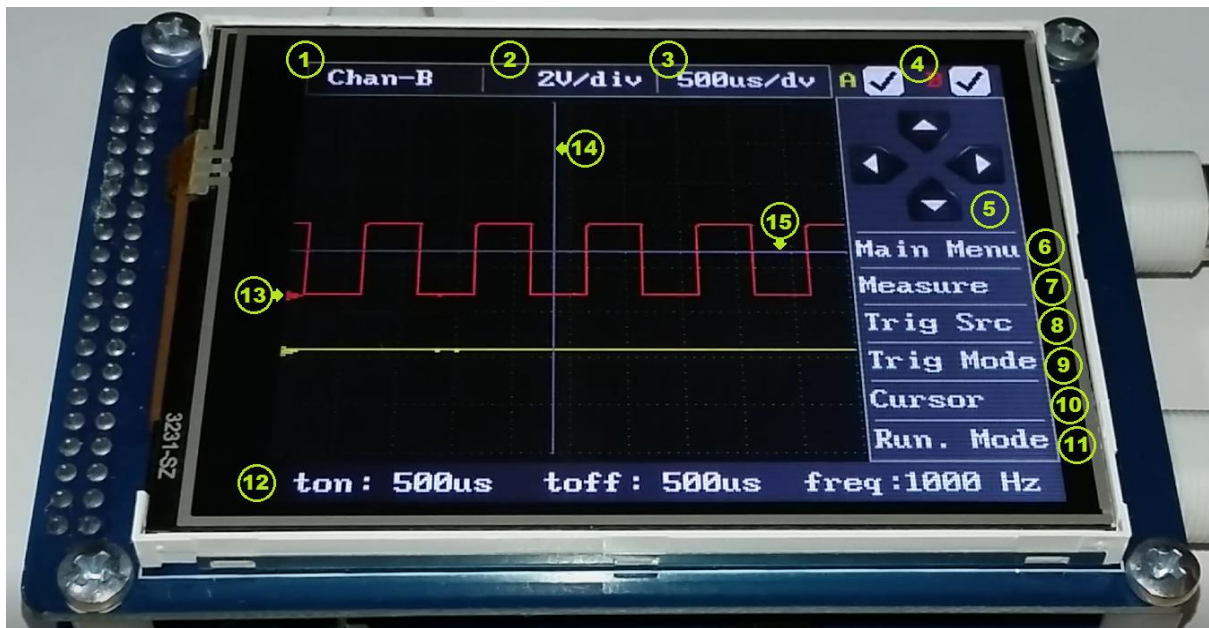

Figure 3. Oscilloscope mode display description
To keep the observed signal stable on the display, the trigger source must be selected for that channel. Otherwise, it will be difficult to observe because the signal will be very moving on the display. To set the trigger source, the 'Trig Src' menu shown in figure 3 should be entered.
The triggering mode must be set in order to trigger on the rising and falling edge of the observed signal. In order to make this setting, 'Trig Mode' menu should be entered as shown at (9) in Figure 3.
Horizontal sensitivity can be set from **1.25 us/div** to **500 ms/div**. It is set from the menu (3) as shown in Figure 3.
Since vertical sensitivity may be set for each channel separately, initially the channel to be set will be selected at (1) in Figure 3. After channel selection is made, vertical sensitivity is set from the menu number (2). Vertical sensitivity can be set from **50 mV/div** to **20 V/div**.